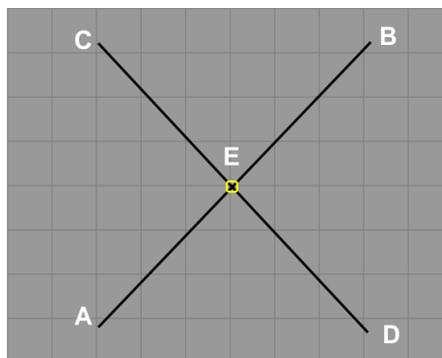

Figure 17. Modification of lines.
1. **Split**: Split tool is used to break the lines or objects at intersection points. Let's take an example shown in Figure 17. Lines AB and CD are intersecting at point E, but they are not broken at E. In order to split these lines at E:
2. **Trim:** This tool is used to trim the offset lines. For example, if AB and CD are two lines and you do not want the BE or AE part of the line AB in Figure 17, you can use **Trim** tool.